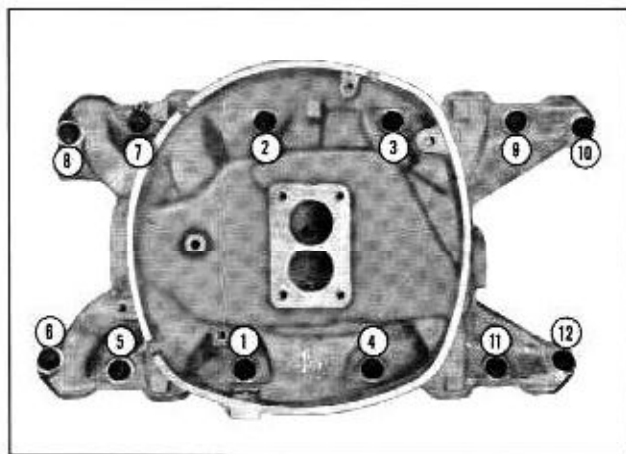

Fig. 8-5 Intake Manifold Bolt Torque Sequence
4. Coat 12 intake manifold bolts with engine oil and install bolts. Torque alternately 25-30 ft. lbs. (Fig. 8-5)